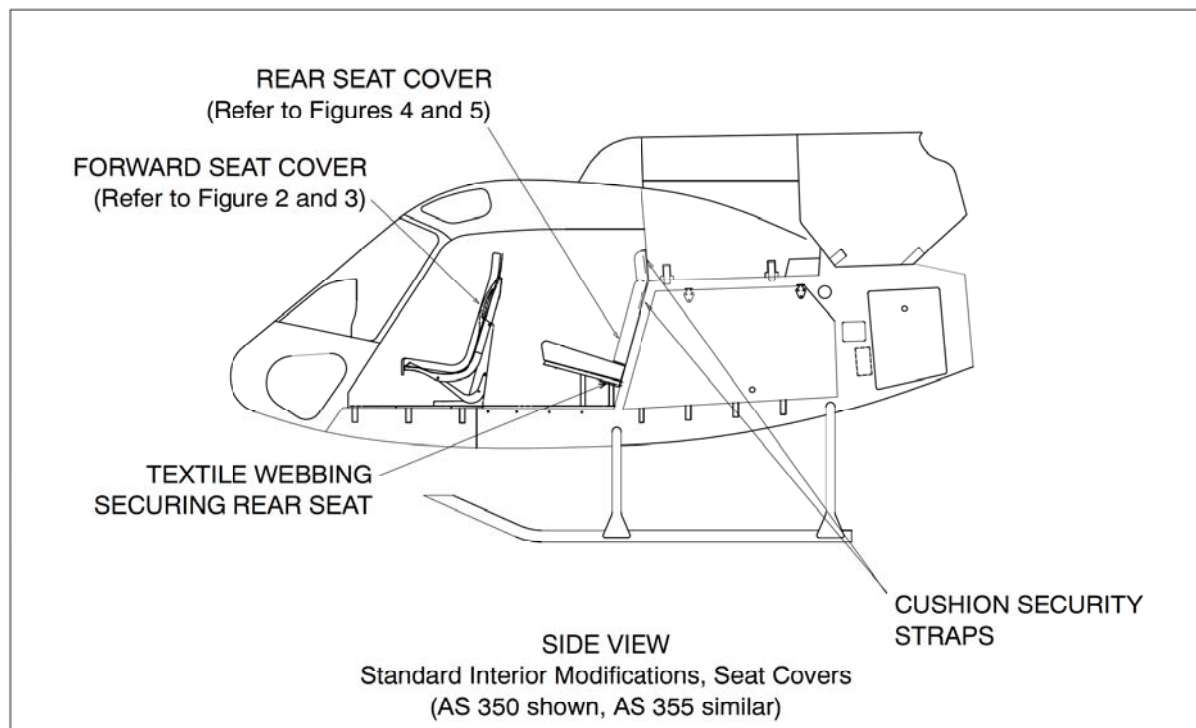

Figure 1 General Layout
- A. The subject Standard Interior Modification for the Seat Cover is defined by AHCA drawing numbers 350-701904, 350-702514, 350-702524, 350-702534 and 350-702544. Refer to Figure 1.
Refer to Figure 1 for General Layout.